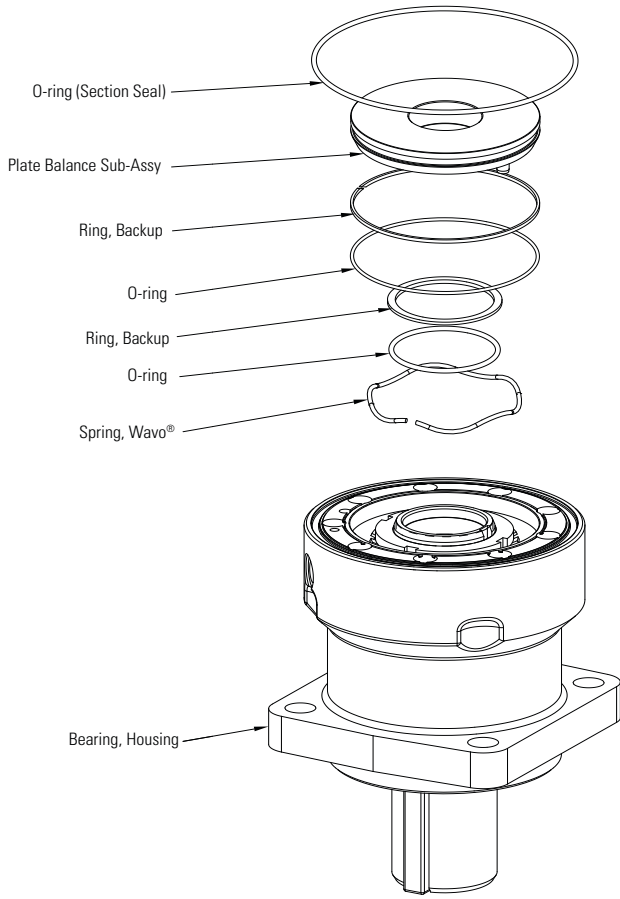

Figure 11
- 9.2.1 With Bearing Housing O-ring grooves up (see Figure 11), install O-ring section seal (139,4 [5.49] ID) Bearing Housing. Install back-up ring (62,1 [2.45] OD) over O-ring (55,2 [2.18] ID) with flat side up. Back-up ring and O-rings may be greased to assist in retaining parts.
- 9.4.1 With Bearing Housing O-ring grooves up (see Figure 11), install O-ring section seal (139,4 [5.49] ID) Bearing Housing. Install back-up ring (62,1 [2.45] OD) over O-ring (55,2 [2.18] ID) with flat side up. Back-up ring and O-rings may be greased to assist in retaining parts.